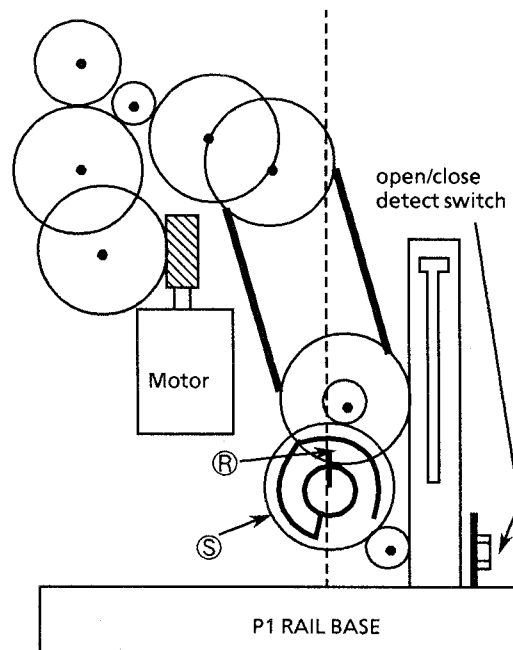

Fig 13
2. Rotate the gear ① clockwise a little.
5. Remove the screw fixing the open/close sw by inserting a thin driver from ① hole to remove the Front door indicator assembly.
6. Pull the P1 RAIL BASE by pulling up the hook ② slightly.
※ Install gear ③ so that part ④ shown in fig.13 is perpendicular to the P1 RAIL BASE.